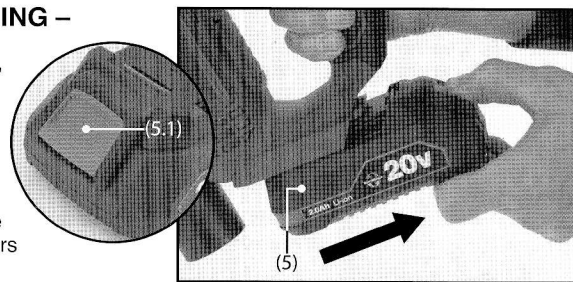

FIG.1
8.1 BATTERY PACK CHARGING – FIGS. 1 – 2
- Press the battery pack release button (5.1) and gently slide the battery pack off (Fig.1).
- Plug the battery charger unit (15) into a 230V/AC 13amp, three pin socket.